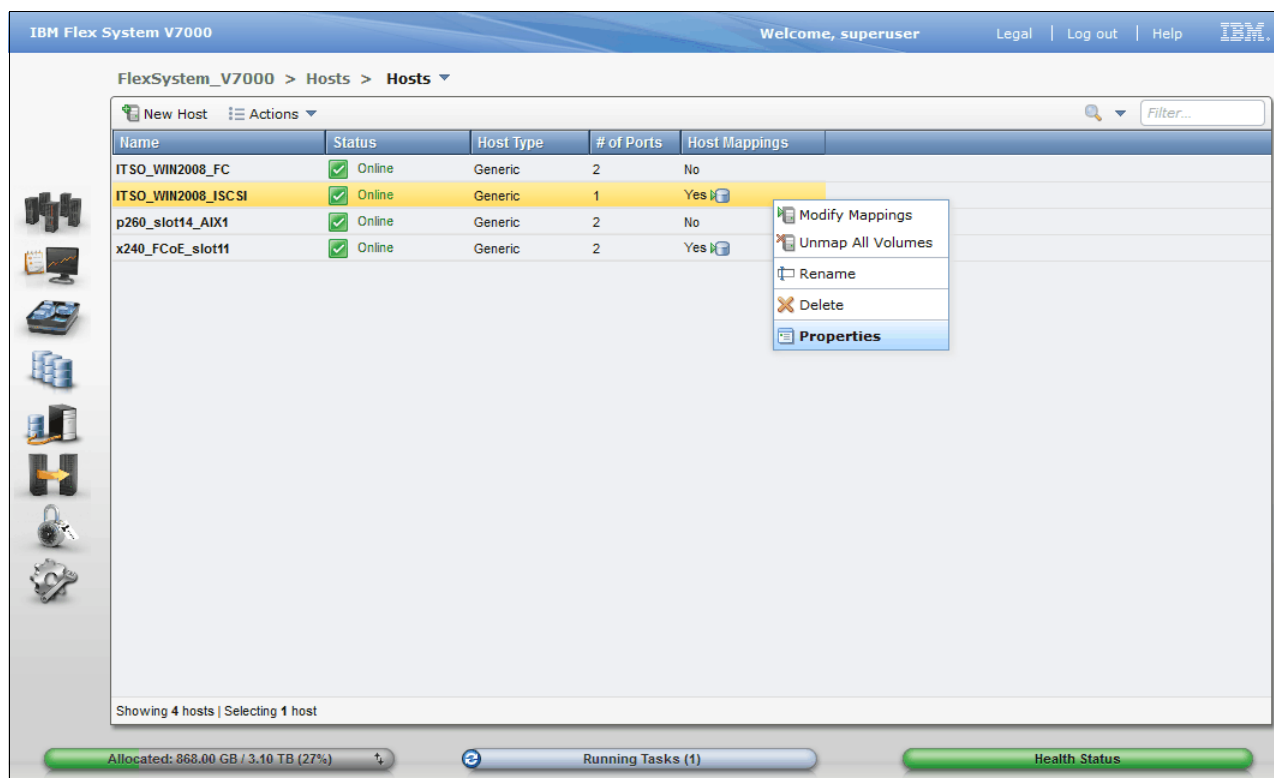
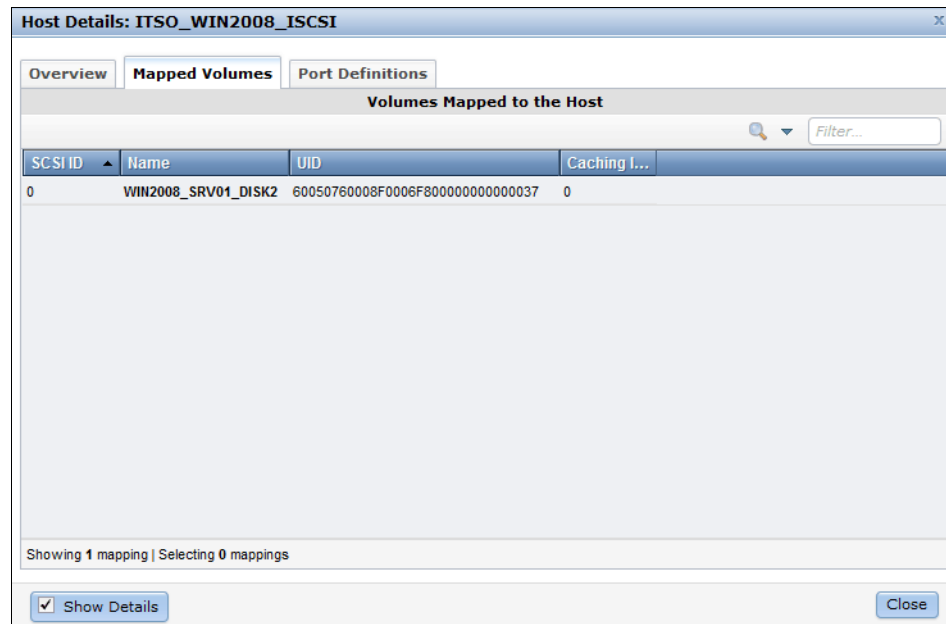

Figure 12-10 All Hosts view - iSCSI host selected
Figure 12-11 Mapped Volumes to an iSCSI host
1. Right-click your Windows 2008 iSCSI host in the All Hosts view (Figure 12-10), click **Properties**, and navigate to the **Mapped Volumes** tab (Figure 12-11 on page 481).